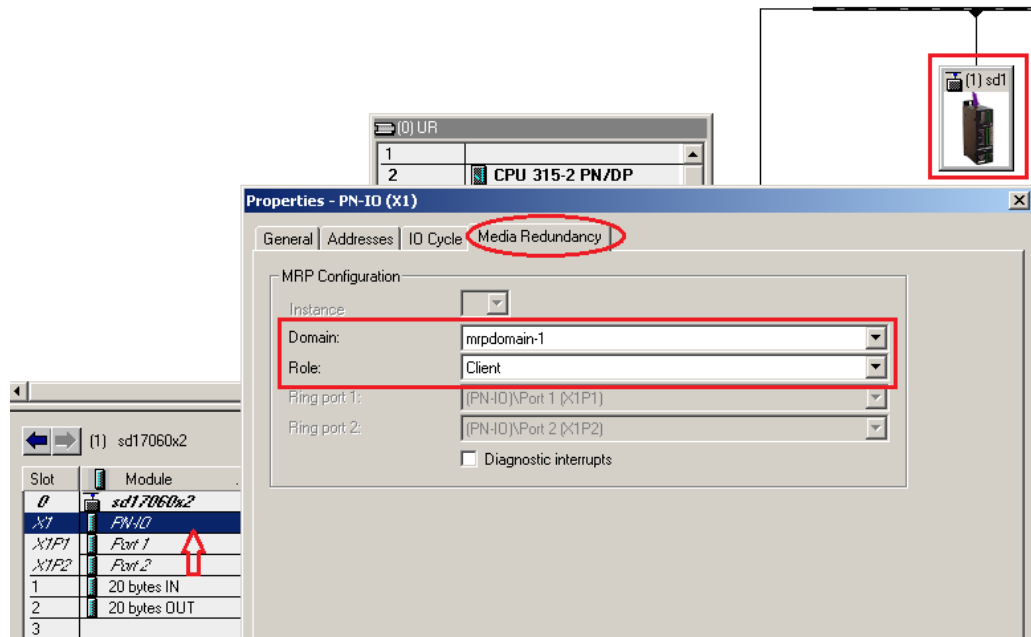

Figure A.1 PN-IO Properties
- 1) Click on the icon for the Networked Driver that is attached to the PROFINET line. The unit's module list will appear. Double-click on "PN-IO" in the module list. As shown in figure A.1, the "Properties - PN-IO" window will open.